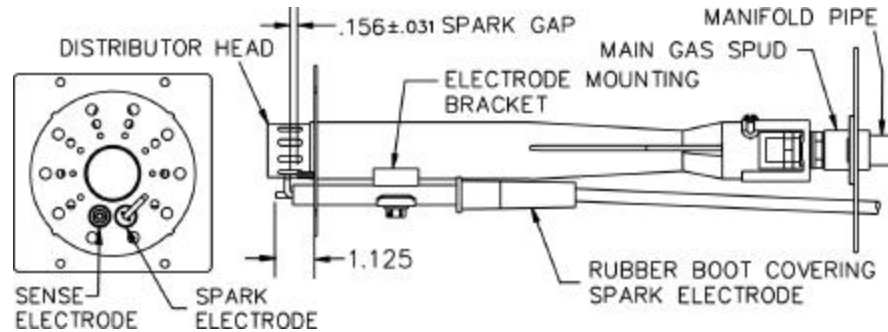

Figure 7: Nozzle Assembly and Electrode Assembly
☞ To change the main spud, turn off the Main Manual Shut-Off Valve and burner power, remove the backplate, disconnect the field installed union located between Combination Valve and Main Manual Shut-Off Valve and remove manifold assembly. Remove Nozzle Assembly from Main Gas Spud, see Figure 7. Unscrew the installed main spud from the manifold pipe and install the selected main spud. Reassemble burner in reverse order.
☞☞ Service will normally consist of inspection and cleaning. Check the electrodes for deterioration and the insulators for cracks. The electrode assembly is adjustable, if defective replace with a new one. Be sure to replace the rubber boot over the spark electrode and treat electrode leads with care. Because of high voltage any damage to the insulation is a potential leak path. When a new electrode is put in, be sure to set the spark gap and flame sensor dimension, as shown in Figure 7.
- b. Between Electronic Control high voltage terminal and Spark Electrode Wire . No spark, broken wire, cracked insulator, or "spark gap" too wide, see Figure 7
- c. Between spark electrode tip and distributor, see Figure 7. If spark is not visible and/or cannot be heard, remove nozzle assembly (see Section IX **Nozzle and Electrodes**) and ground it solidly to burner metal. No spark, replace ignition electrode.
- 1. Check sense electrode position per Figure 7.